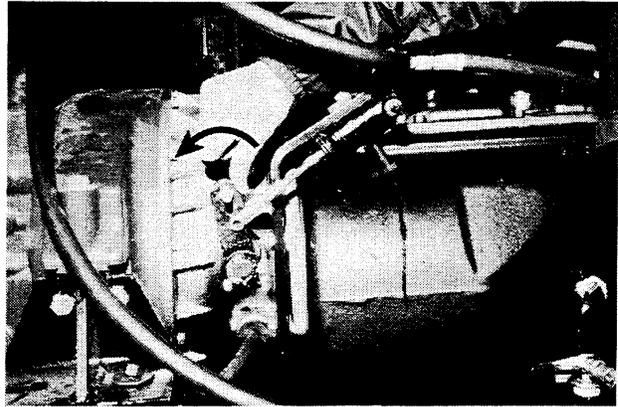
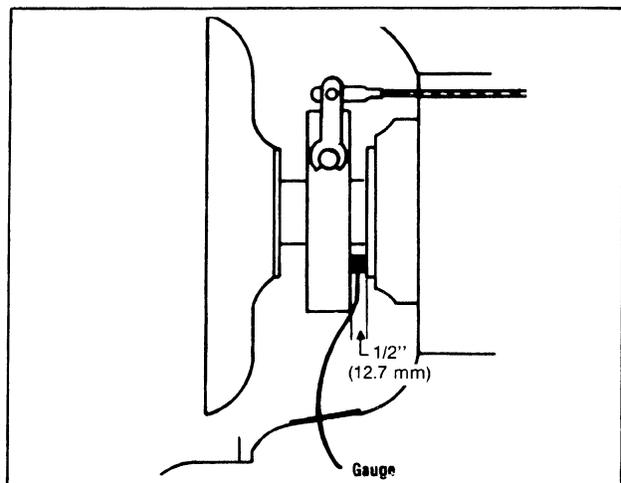

Figure 4:
Figure 5:
5. On the hydraulic actuated clutch, rotate clutch outer release arm forward (CCW) (on the mechanical clutch "pull up" on the lever) by hand until a slight resistance is felt to remove any slack in the release bearing carrier (A-Fig. 4). At this point, the distance between the rear face of the release bearing assembly and the front face of the transmission brake disc (with brake disc rearward against front transmission bearing cap) must be $1/2$ inch (.50 inch) (12.7 mm) (Fig. 5). If the distance is not correct, proceed to the next step.